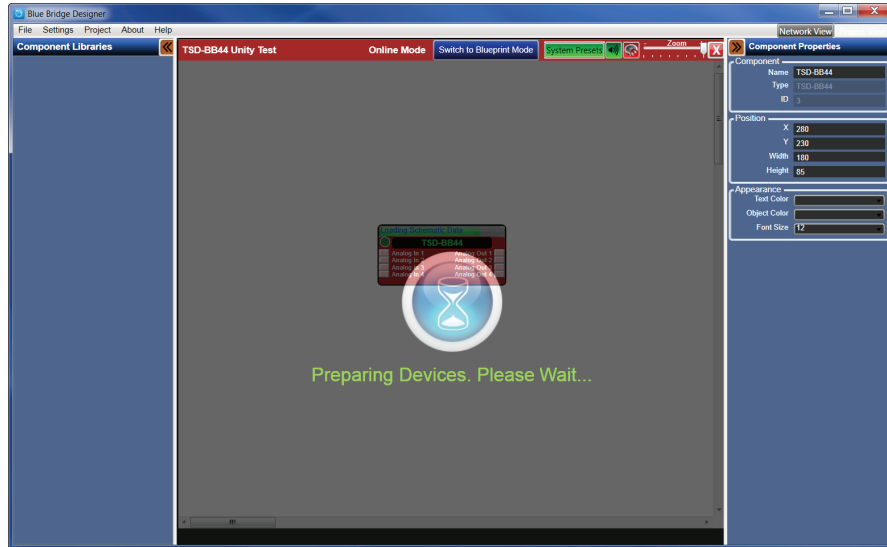

Figure 19
- The Design file will now upload the file into the Processor hardware as shown in Figure 19. The wait time will depend on the size of the design file and can take several minutes to finish.